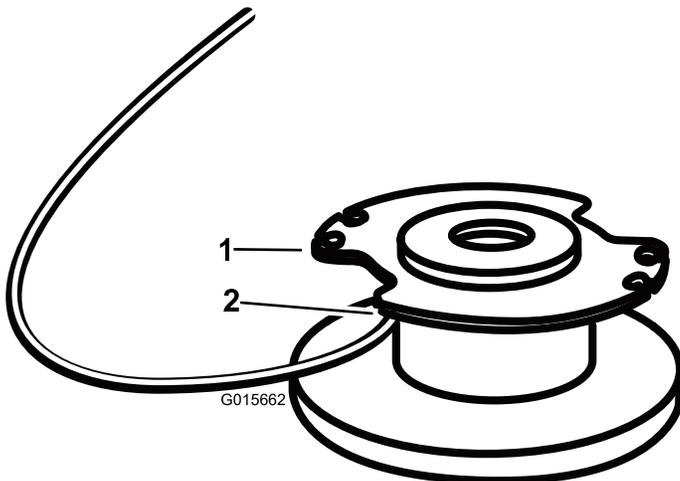

Figure 13
4. Insert the string into the anchor hole in the upper part of the spool (Figure 13). Wind the string onto the spool in the direction shown by the arrows on the spool.